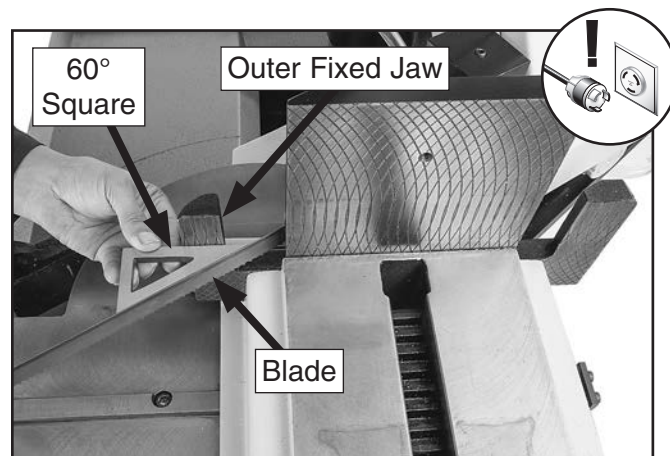

Figure 97. Using 60° square to check 60° left angle stop.
5. **DISCONNECT MACHINE FROM POWER** and place 60° square between outer fixed jaw and blade, as shown in **Figure 97**. The square should fit snugly against outer fixed jaw and blade.